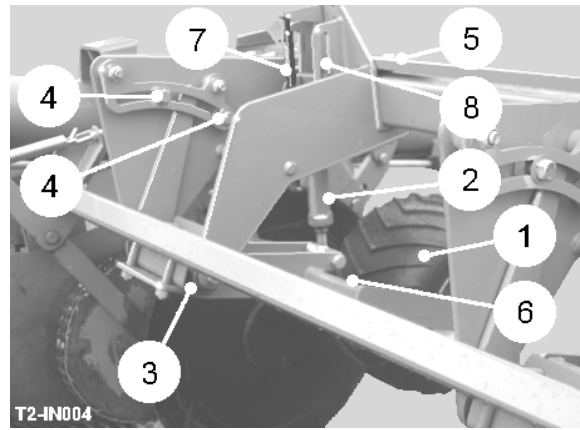

Fig 4
The depth wheels (item 1, fig 4) running on each ridge control the share depth. Their setting is very important to the effective operation of the harvester. The turnbuckle (item 2, fig 4) sets the working depth of the wheels. Lengthening the turnbuckle will cause the shares to run shallower beneath the top of the ridge and shortening will allow the share to run deeper.
The wheels are mounted on rubber torsion springs (item 3, fig 4) which allow the weight to be carried off the wheels to reduce compaction of the ridge, or for additional pressure to be put on the ridge to consolidate it in light conditions when the flow over the shares is poor.
The pressure setting needs to be made when the machine is in work so that the relative working position of the depth wheel to the ridge is correct. By positioning the clamp stops (item 4, fig 4) in the pressure-setting quadrant, weight can be removed from the depth wheel, or extra pressure can be added to the wheel.
Row width settings are adjusted by loosening the clamp bolts (item 5, fig 4), and sliding the wheel assembly until positioned centrally over the ridge. Repeat for the other wheel ensuring they are set symmetrically about the centre line of the machine. The depth wheels are each fitted with a scraper (item 6, fig 4). The scrapers should be set as close to the wheels as possible without fouling them.
A depth sensor (item 7, fig 4) is fitted to each depth wheel unit. The depth control unit allows each wheel to sense the height of the ridge it is running on and in doing so, maintains the constant depth of the share below the top of the ridge. The depth control sensor detects the position of the top of the depth turnbuckle. The initial depth setting should be made with the machine on a firm level surface. Place a 10" (250mm) spacer block under each depth wheel and lower the digger until the shares touch the ground. In this position, adjust the turnbuckles so that the top pin is central in the slot (item 8, fig 4). By default, the depth on the screen should be set to 250mm. The depth adjustment can be varied approximately +/-75mm by the operator from the tractor cab.